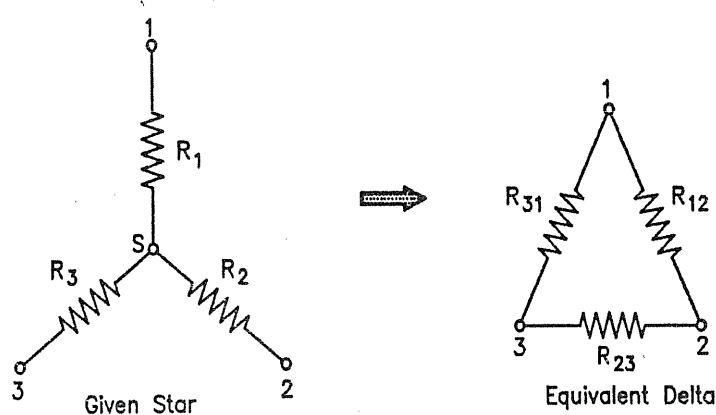

FIG. 1.38 : STAR-DELTA TRANSFORMATION
- Let us consider the three resistances R_1 , R_2 and R_3 connected in star as shown in Fig. 1.38.